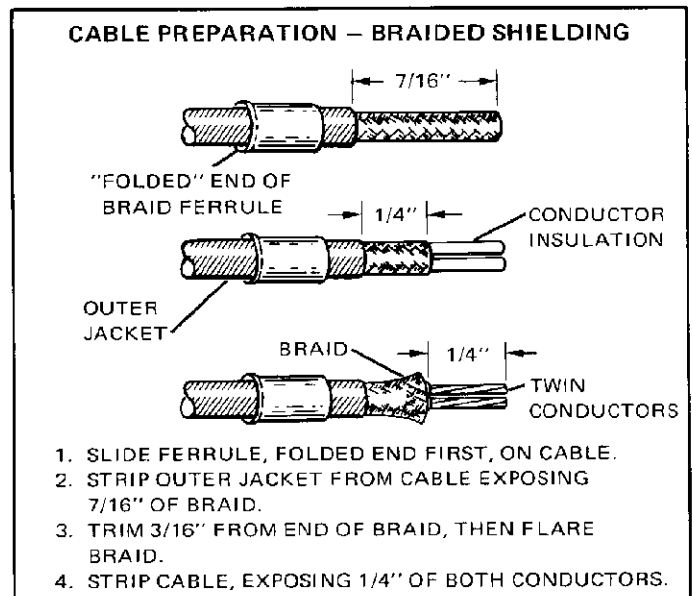

Figure 2
- Slide braid ferrule, "folded" end first, over cable as shown in Figure 2.
- Strip cable to dimensions specified in Figure 2.